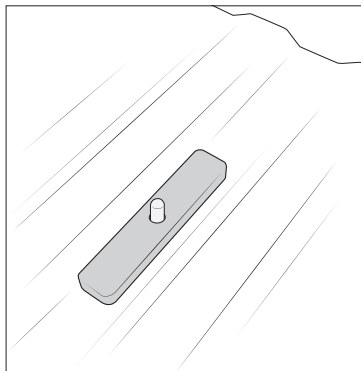

Figure 8
4. Place the Spacer over the bolt, fitting in the groove of the bed (fig. 8).